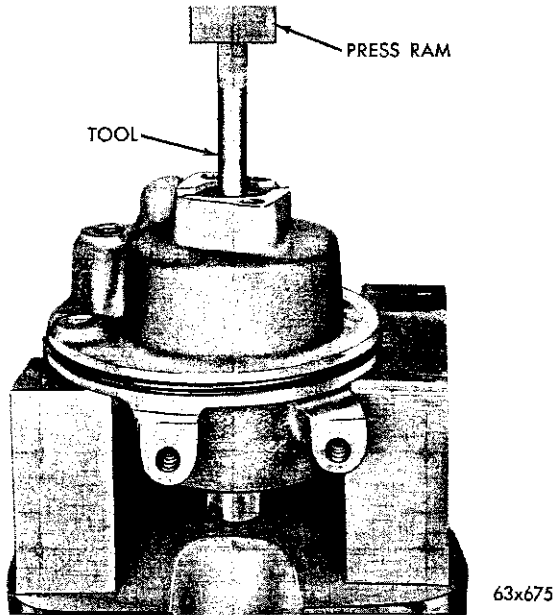

Fig. 61—Removing the Shaft, Rotor and Front Insert
(5) Support the pump housing so that the front insert is clear and use a smooth ½ inch diameter bar (Fig. 61), press the shaft, rotor and front insert out of the pump housing.